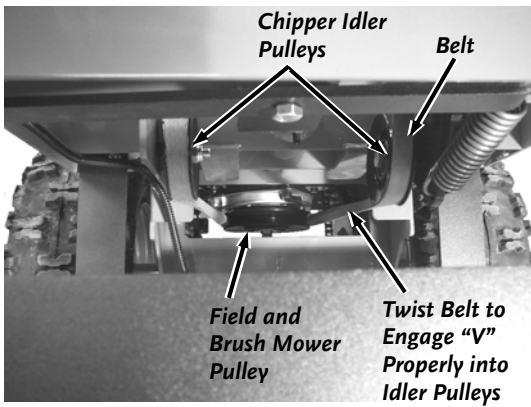
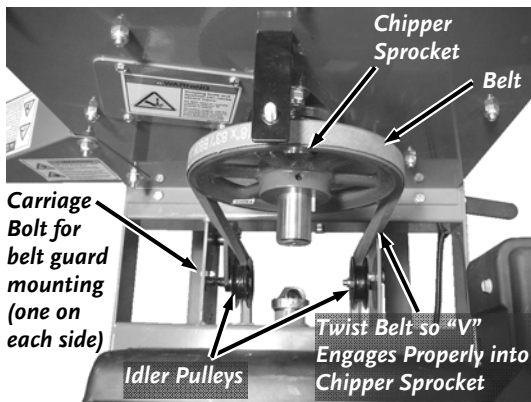

Figure 24
Figure 25
7. Position the Belt onto the Field and Brush Mower Pulley (**Figure 24**) and then route it over the two Idler Pulleys and up around the Chipper Pulley (**Figure 25**).